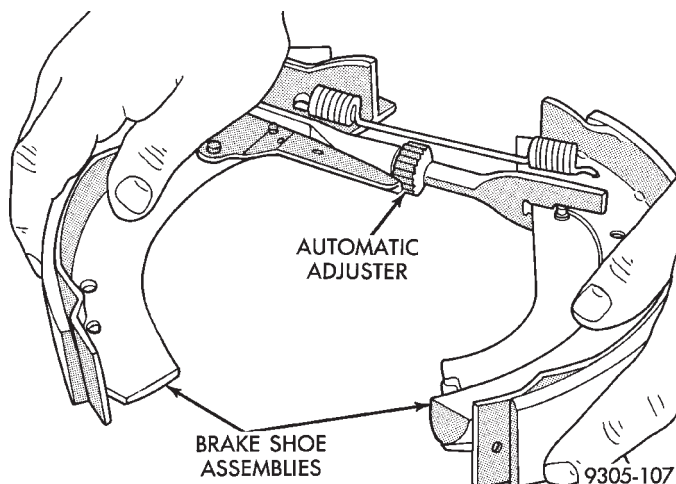

Fig. 12 Remove Brake Shoe Assemblies From Adjuster
(9) After brake shoe assemblies are removed from brake support plate. Separate brake shoe assemblies from automatic adjuster mechanism (Fig. 12).